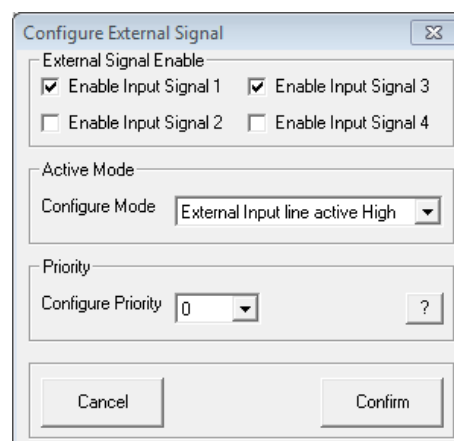

Fig. 38 Window "Configure External Signal"
- 1) To configure the switching inputs, click the button "Configure" located on the right-hand side of the window (under "Extra Program"). The dialog window "Configure External Signal" (fig. 38) is displayed.